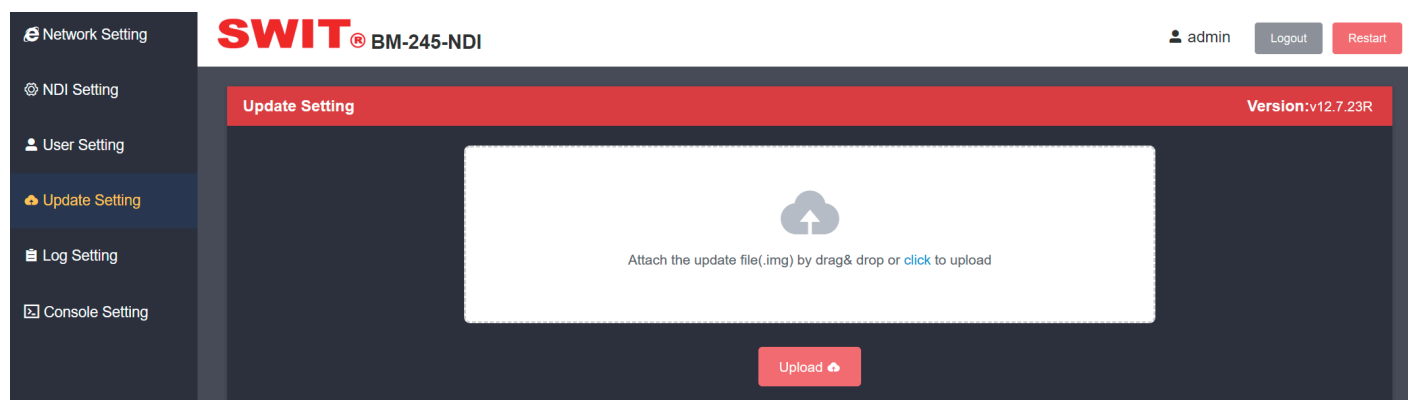

Fig.9
3. If necessary, please log in the official website of Osev to obtain the upgrade package. See Figure 9 below for details.